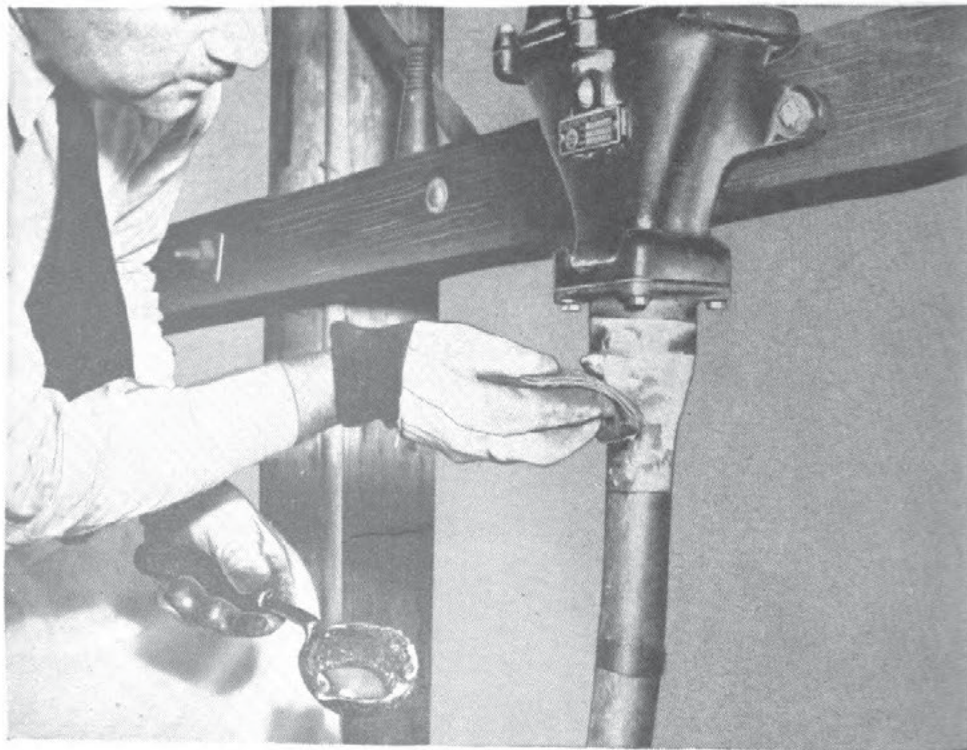

Figure 10-21.—Soldering cap to sheath.
7. Mount the pothead body with the wiping cap in position. Solder the cap to the sheath and install filling pipe, as shown in figure 10-21. Assemble cap nuts loosely. Fill the pothead with compound heated to 130° C. allowing the compound to rise to the vent opening. Seal the vent and continue filling until 1 pint overflows. Allow the compound to cool for 2 hours. Tighten cap nuts and remove filling pipe and